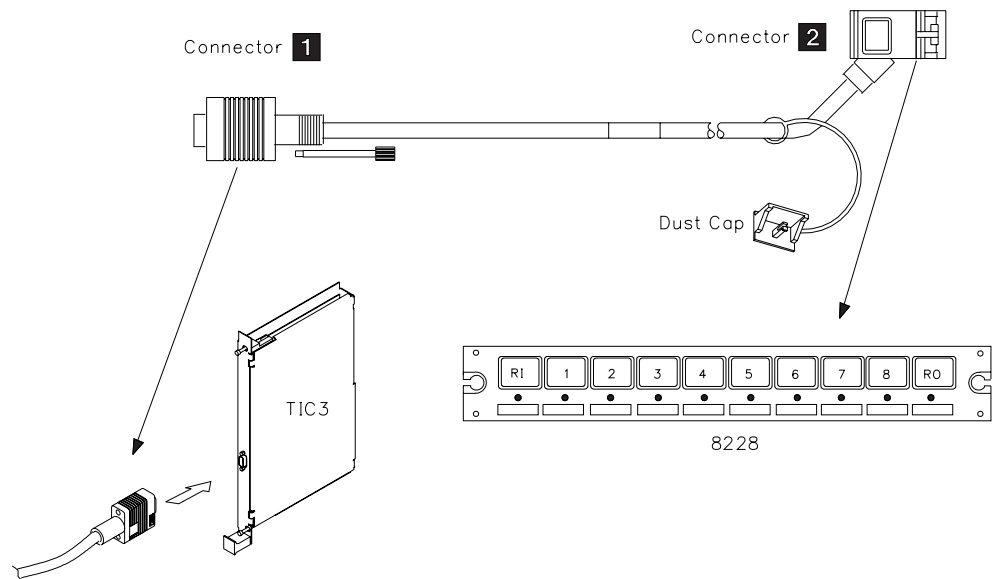

Figure 2-24. Connection of the 8228 to a TIC3
- e. \_\_\_\_ Plug connector **2** to one of the 8228 LAN adapter plugs 1 to 8 (Refer to Figure 2-24 below).